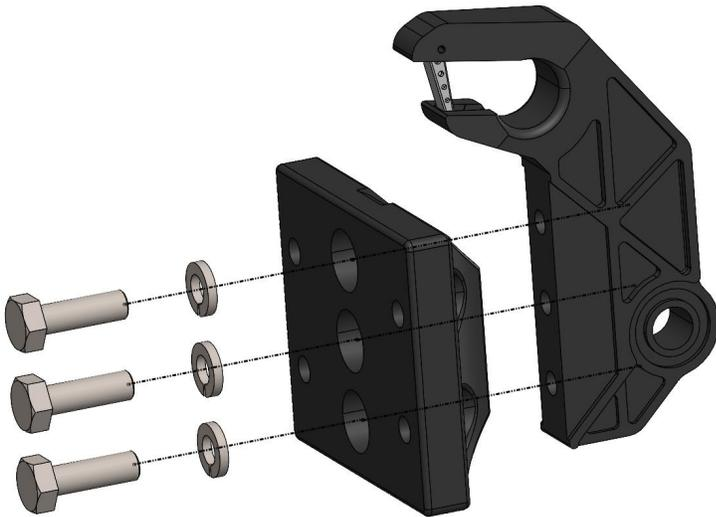

Figure 4
5. Assemble the mounting hooks (61823 and 61824) with three (3) 5/8" bolts and lock washers. Use the 61840 kit to install the clip and spring into the hook. Figure 4.